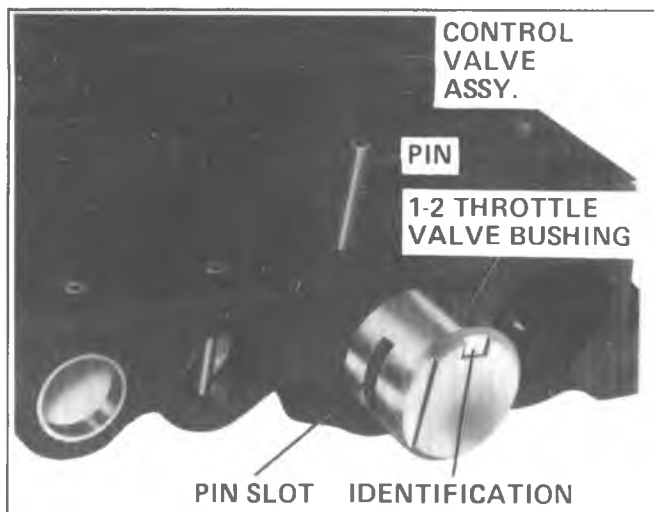

Fig. 7A-156A--Install 1-2 Throttle Valve Bushing
6. In lower right bore, install throttle valve, smaller outside diameter land first, making sure valve is seated at the bottom of the bore. Install inner coiled pin between the lands of this valve (Fig. 7A-155A). Install the detent pin (on